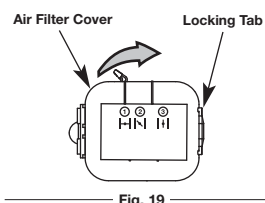

Fig. 19
8. Swing the cover to the right and press closed so the air filter cover tab snaps into the slot on the back plate (Fig. 19).